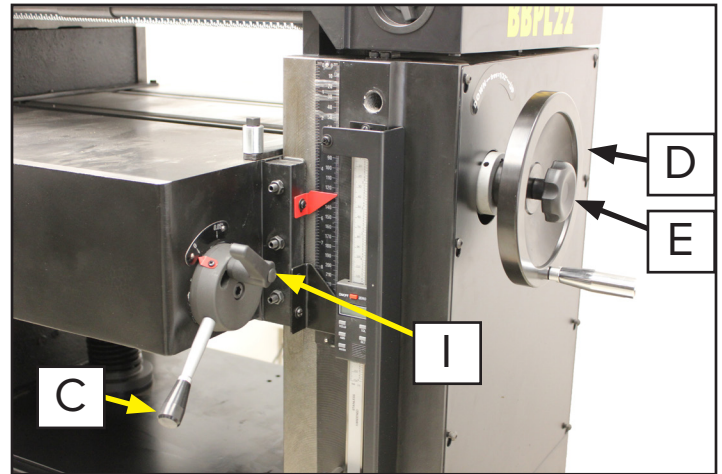

Figure 6: Installing the Handwheel.
As for the handwheel D just insert it on its shaft and screw the knob E in until tight. Thread and tighten the table roller handle C on the table roller hub tightly, see figure 6 (D,E and C).
1. Loosen the handle (I, Figure 6).
2. Adjust the table rollers by raising or lowering the handle (C, Figure 6) to the desired position.